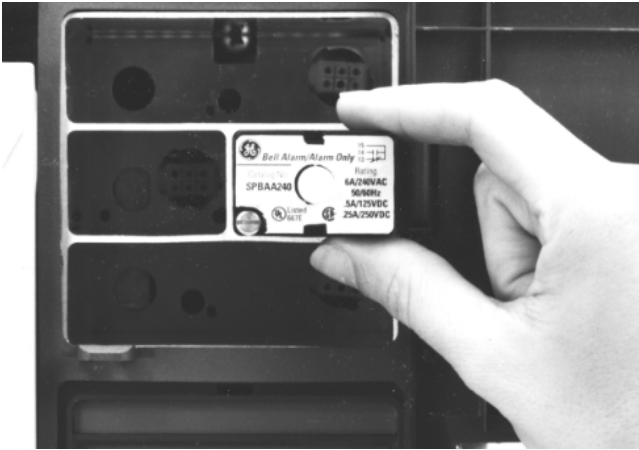

Figure 4. Inserting the Bell Alarm–Alarm Only into the accessory compartment.
- 3. Insert the Bell Alarm–Alarm Only module into the proper slot, as illustrated in Figure 4. The Bell Alarm–Alarm Only module is keyed for the correct slot in the accessory compartment. If the module cannot be fully seated in the compartment, check that the compartment position is correct.